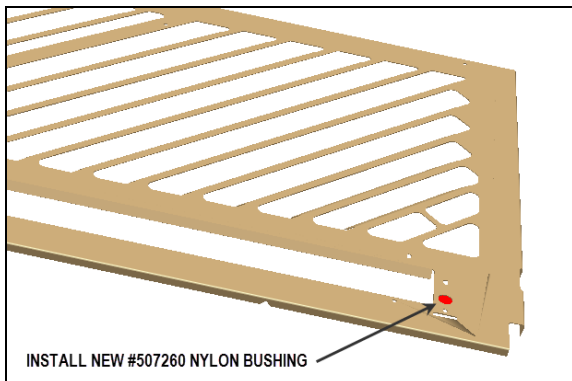

Fig.25
19. Prior to condenser reinstallation, install a new #507260 nylon bushing in the lower compartment pin hole (Fig 25 & 26).